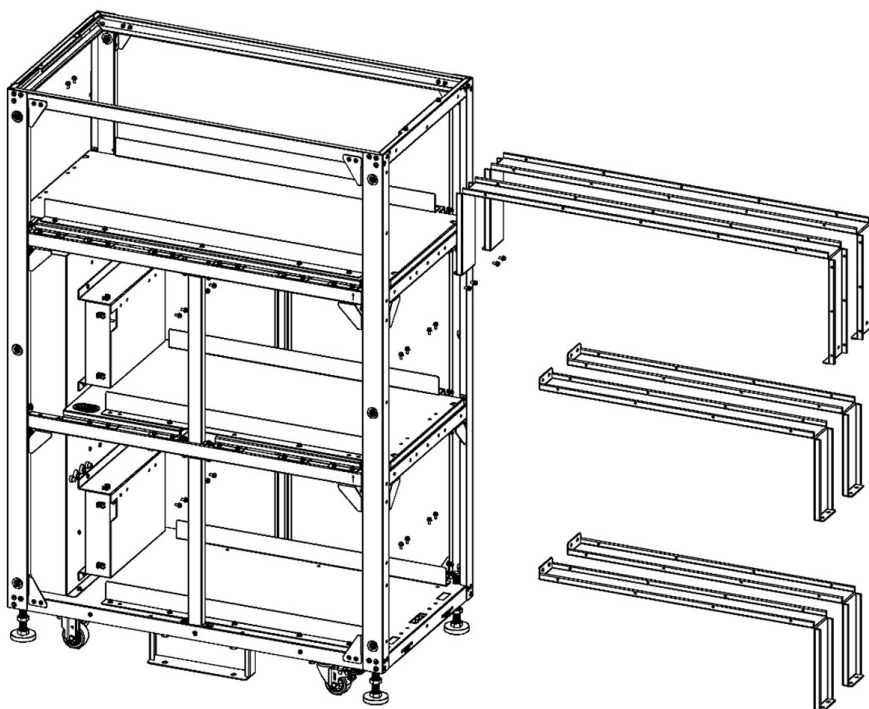

Figure 5-36A
3. Remove all screws from the six battery retention brackets and remove the retention brackets (Figure 5-36A).